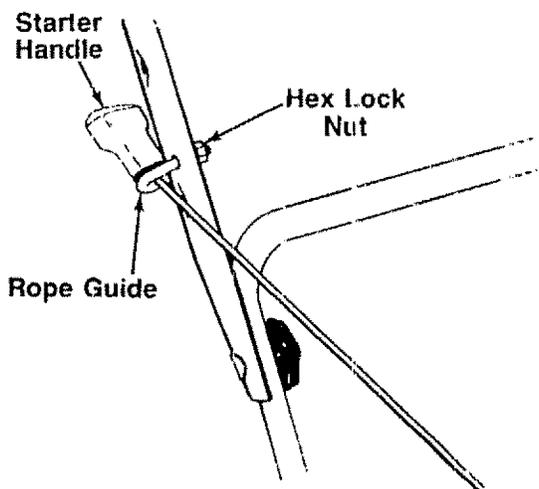

FIGURE 5.
- Place the rope guide around the starter handle, so the rope guide bends downward as shown in figure 5. Insert the rope guide into the handle, and secure with hex lock nut.